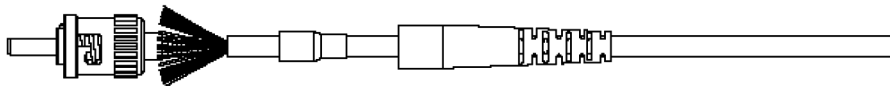

Fig. 5
Step 6 Cut approx 8mm of jacket open with scissor and prep the drawn out Kevlar per Fig 5.